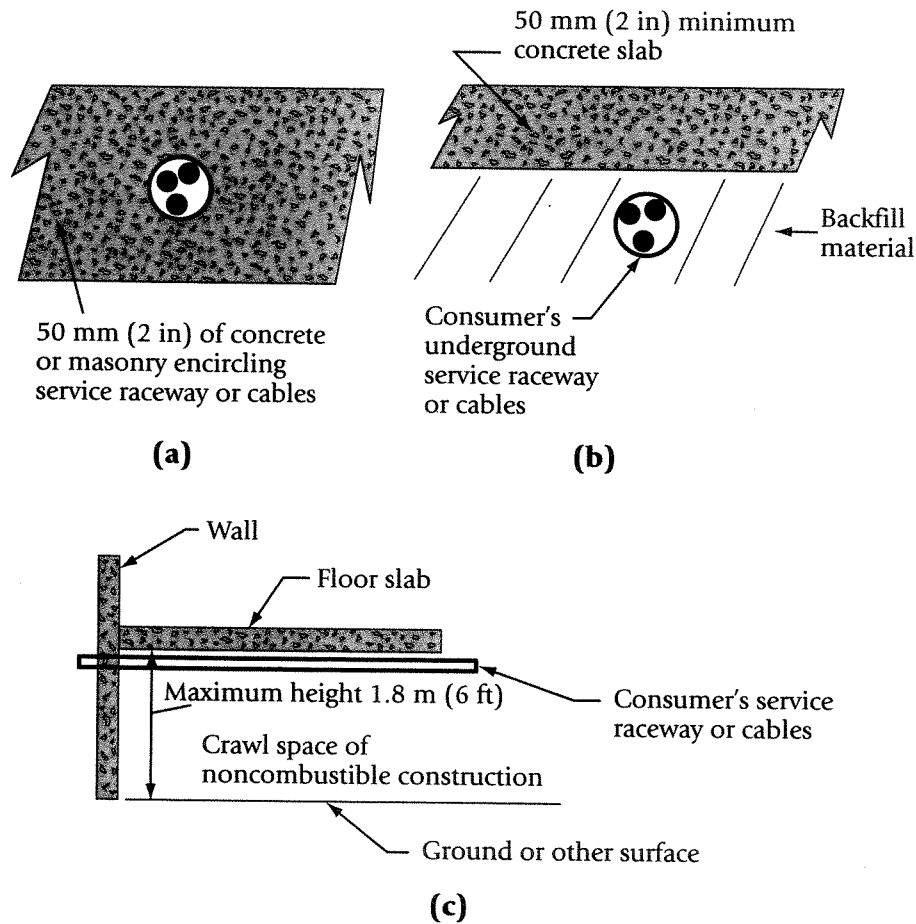

Figure 11
- The service conductors are encased in 50 mm (2 in) of concrete or masonry [see Figure 11(a)].
- The service conductors are located beneath a concrete slab at least 50 mm (2 in) thick [see Figure 11(b)].
- The service conductors are run through a crawl space that is located under the building and that does not exceed 1.8 m (6 ft) in height [see Figure 11(c)].